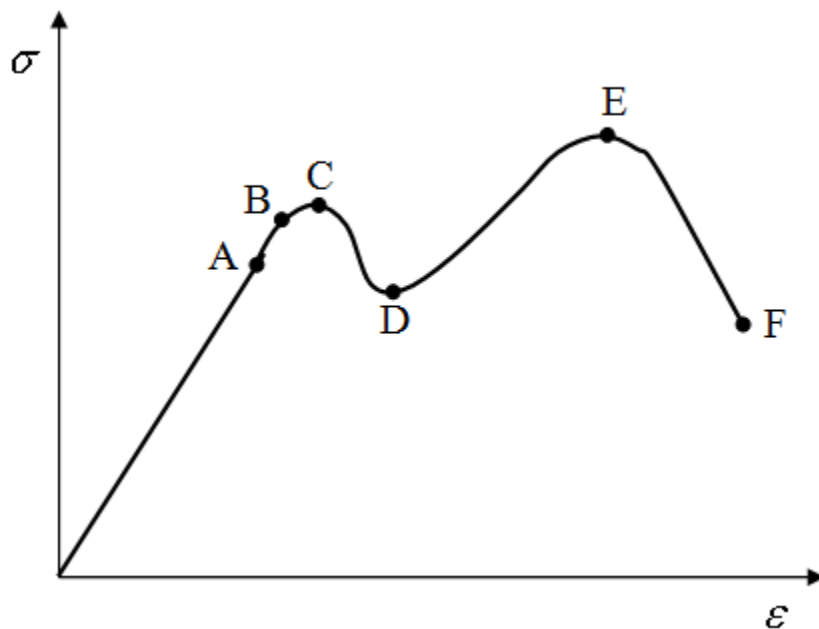

Figure Q1(C)
- b) Explain the following Three(3) types of stresses that are induced in mechanical structures when external loads are applied to them. (3 marks)
- c) Figure Q1(C) illustrates stress- strain curve for ductile materials .Name the points indicated on the graph and explain behaviour of material at the following portions as indicated on the curve in figure below. (6 marks)